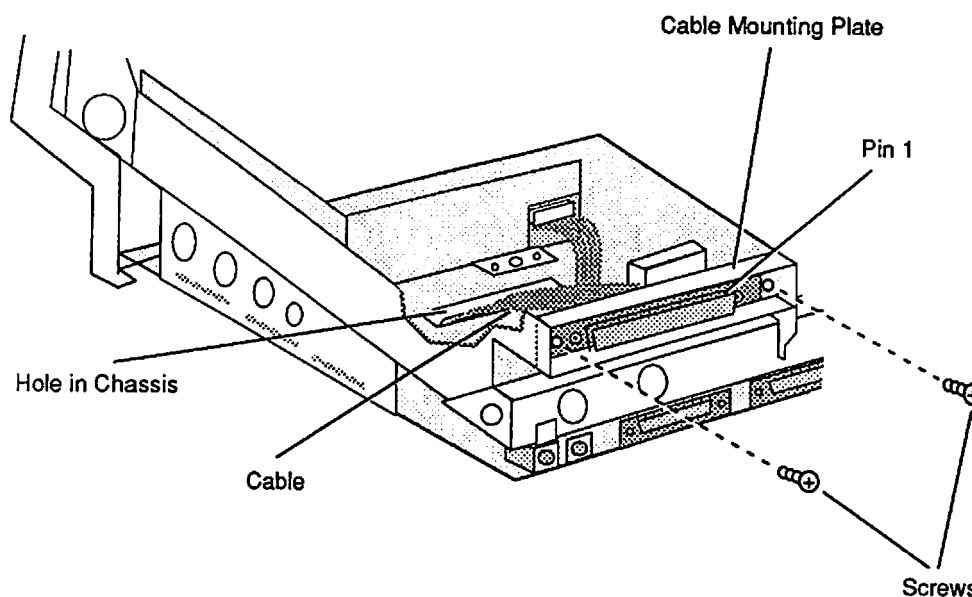

Figure 5-2 SE-Bus PC Card Cable
6. **Figure 5-2.** Stand the Macintosh SE upright so that the back is toward you. Position the mounting plate on the SE-Bus PC Card cable so that the 37-pin connector is facing you, and pin 1 is on the right; the pin numbers are on the face of the connector). Mount the plate inside the chassis with the two Phillips screws.
7. Route the 26-pin connector on the cable through the rectangular hole (**Figure 5-2**) in the chassis bottom, and place the Macintosh SE face down.